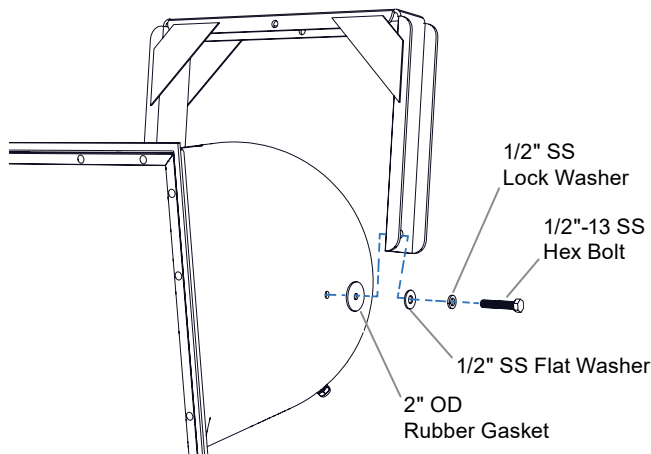

Figure 2a. Mount the R2 loudspeaker to the yoke
1. The R2 loudspeaker is shipped with the yoke attached. If it is necessary to position the yoke differently, please remove the mounting hardware and reserve the hardware for repositioning. Attach the R2 loudspeaker to the yoke. See **Figure 2a**. Determine and orient the loudspeaker correctly for the coverage desired for your application. Mount the loudspeaker to the yoke with the rubber washers between the yoke and enclosure and attach as shown. This is intentionally a tight fit to maintain weather resistance. Tighten bolts to finger tight (enough to hold the loudspeaker in position).